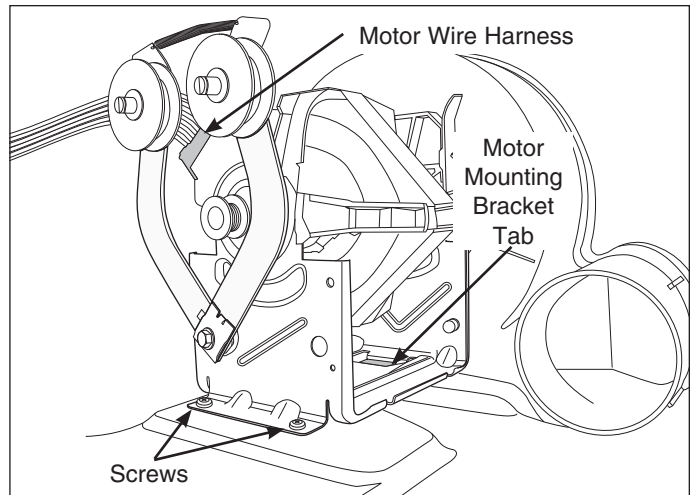

Figure 4-38.
3. Using a #2 square bit screwdriver, extract the screws securing the motor assembly to the unit base. (See Figure 4-38)
To separate the motor from the blower assembly, remove the motor and blower assemblies by following steps 1-6 on the previous page and shown in figures 4-38 & 4-39, then follow the steps below.